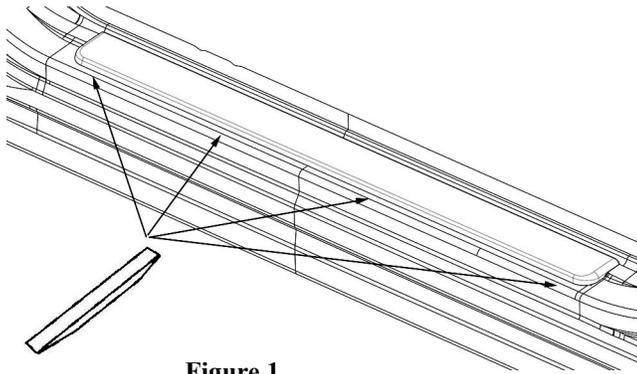

Figure 1
- a) Pry up at each clip location (4) with Nylon Trim Removal Tool. (Figure 1)